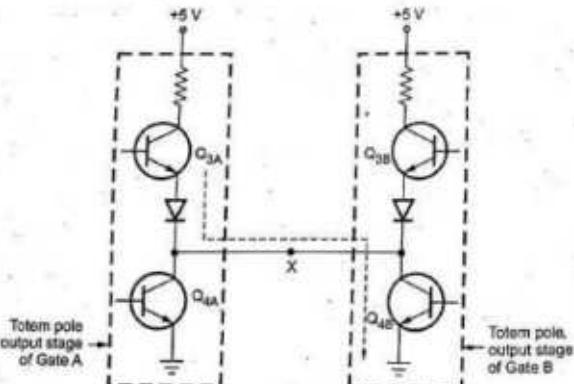

Fig. 3.3.8 Totem-pole outputs tied together can produce harmful current
- See the Fig. 3.3.8, where the totem pole outputs of two separate gates are connected together at point X.